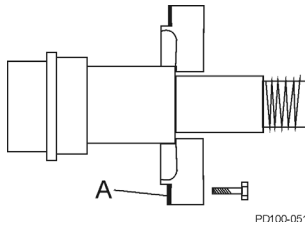

Figure 41 - Remove Sealant from Retainer
- Remove the silicone sealant (Figure 41, item A) from the bearing retainer and gear case.